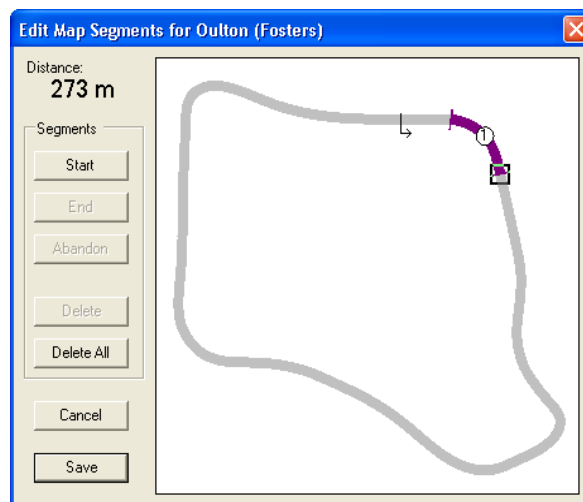

Figure 23 - Edit Map Segments Dialog (Segment Defined)
5. Mark the end point of the segment by clicking on the map and then clicking **End**. The portion of the map between the start and end points changes colour with small bars marking the extents of the segment (see Figure 23). Clicking **Abandon** before marking the end point of a segment allows the definition of the current segment to be cancelled.